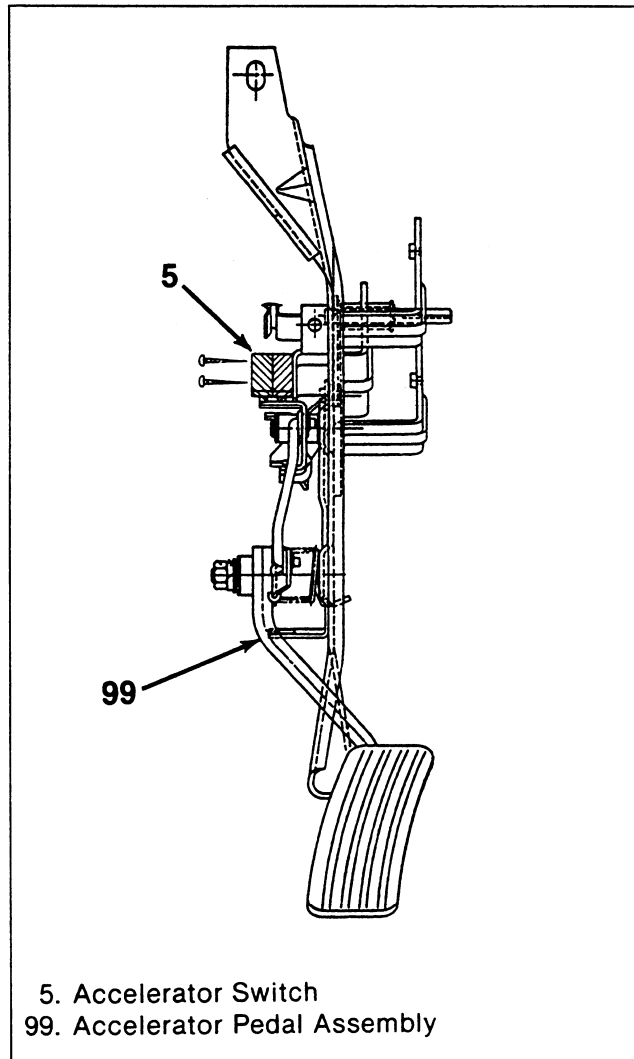

Figure 17. Accelerator Switch
- The accelerator switch (5) is located on a bracket above the accelerator pedal (99) (figure 17).
Remove or Disconnect (Figures 17 and 20)
Install or Connect (Figures 17 and 20)